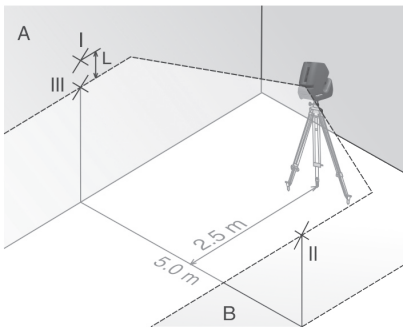

fig. 2
- fix the instrument by turning it around 180° (see fig. 2)